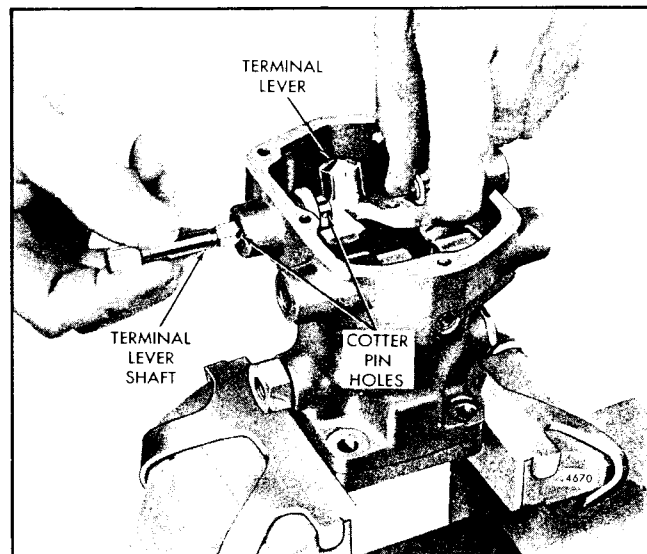

Fig. 15 - Installing Terminal Lever Shaft in Governor Housing and Terminal Lever
engine oil. Place the terminal lever in between the ends of the two bushings inside of the governor housing; then insert the serrated end of the shaft into the bushing in the housing with the cotter pin holes in the shaft and terminal lever in alignment as shown in Fig. 15. Push the shaft into the lever until the two holes are in alignment.
- c. Lubricate one of the terminal lever shafts with engine oil. Insert the serrated end of the shaft into the bushing in the sleeve with the cotter pin holes in the shaft and terminal lever in alignment as shown in Fig. 15. Push the shaft into the lever until the two holes are in alignment.